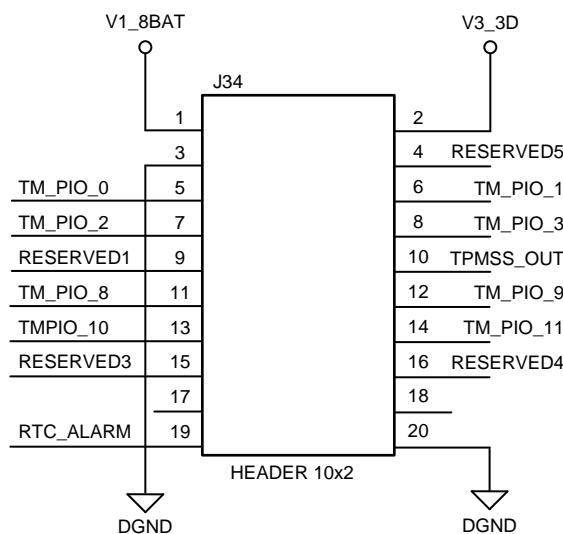

图 16. Wire Mesh Header
- Make connection should be made according to the pin connections mentioned in 图 16.